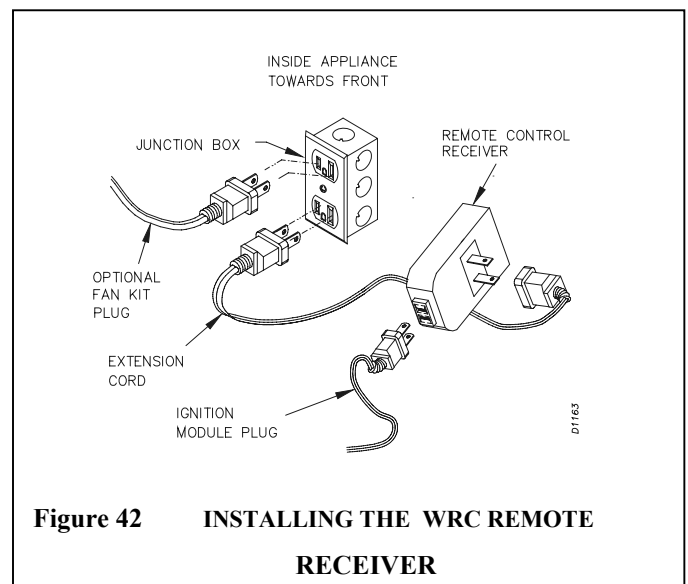

Figure 42 INSTALLING THE WRC REMOTE RECEIVER
3. The WRC model receiver does not require a battery and can be installed by plugging the extension cord into one of the outlet receptacles on the outlet box, then plug the receiver unit into the extension cord and finally plug the ignition module into the receiver unit (see figure 42).